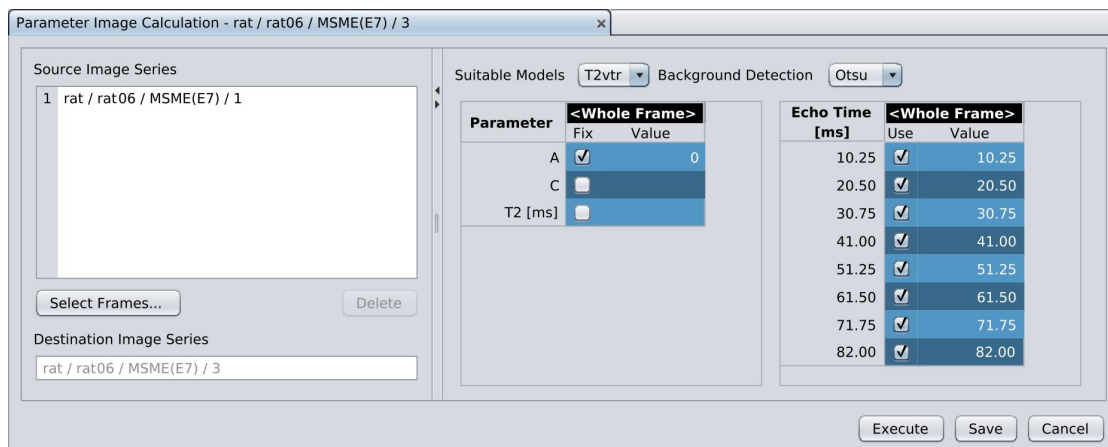

Figure 1.406: Parameter Image Calculation Processing Editor
- The Processing Editor for the Parameter Image Calculation processing opens (see [Figure 1.406 \[452\]](#)).